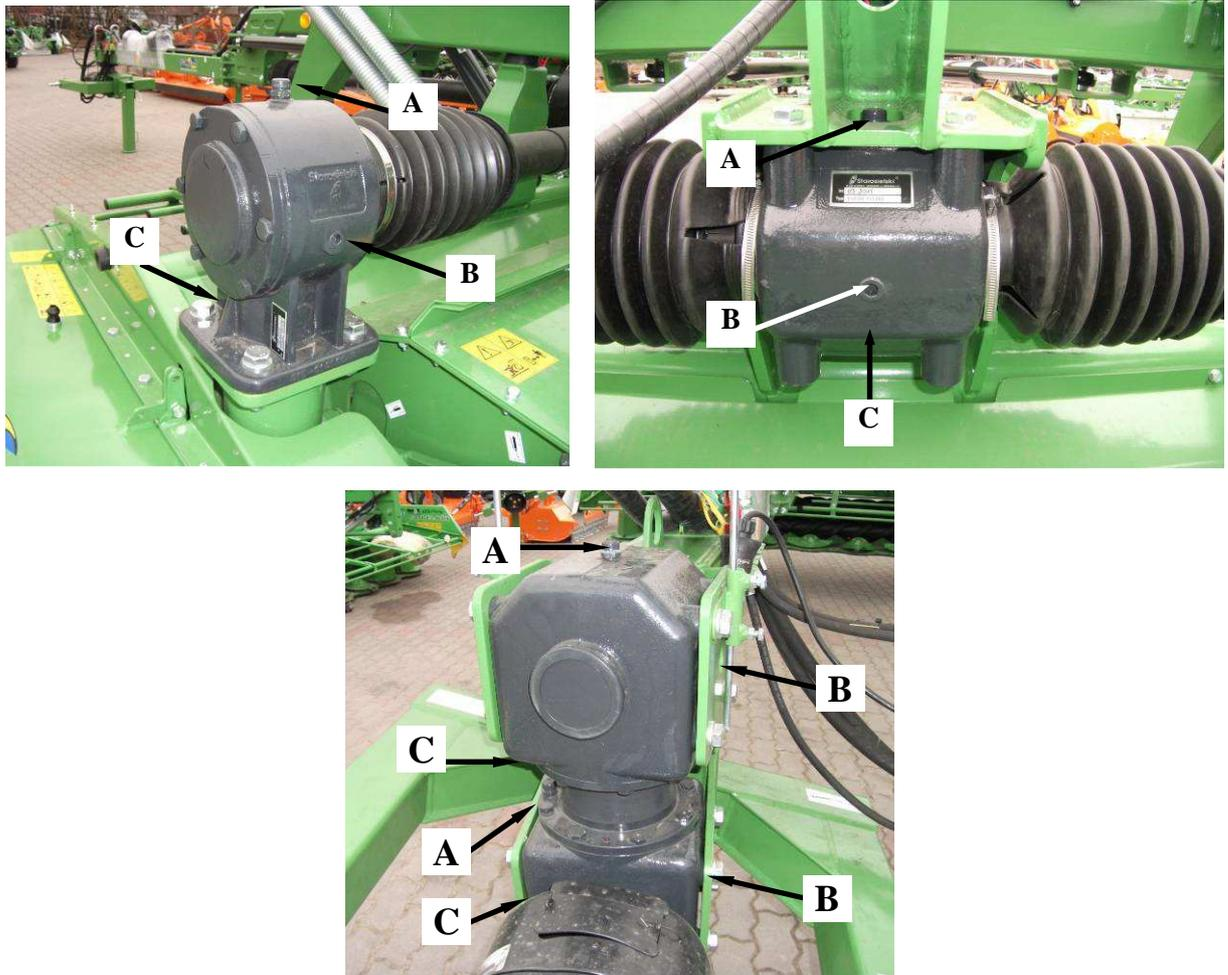

Fig. 35. Intersecting axis gears oil
Every day before starting work check the oil level and, if needed, refill after having removed the vent **A** on the top of the gear (**Fig. 35**). The oil level can be checked through check opening **B** on the side of the gear. Please refill the oil until it is visible in the check opening. Oil level in gear: approx. 1 liter. Removing the old oil from the gearbox is done through the outlet **C**.
- Open check opening **B** and outlet **C** (**Fig. 35**),